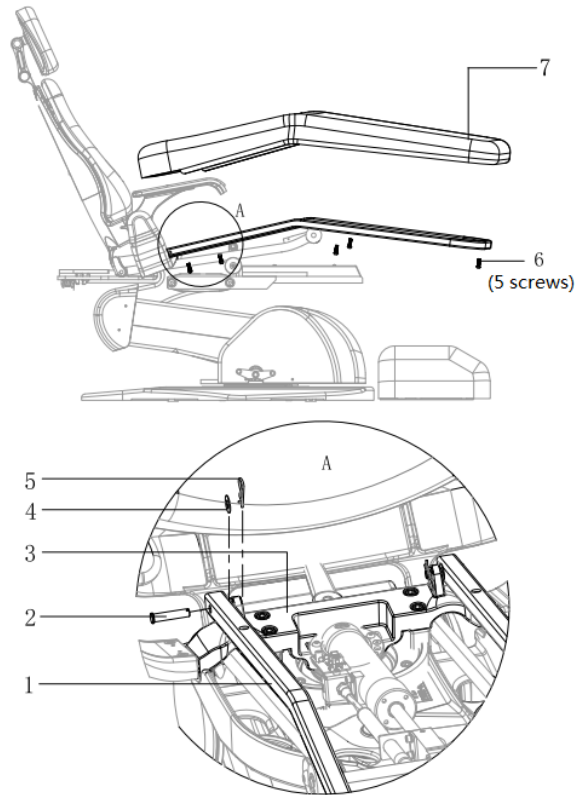

Figure 5. Seat Cushion Installation
1. Put the seat frame ① on the side of the yoke casting ③.
2. Align two screw holes as indicated on Figure 5. Detail A.
3. Place a washer ④ between the seat frame and the yoke casting.
4. Install a connecting pin ② through the hole on each side of the chair.
5. Install an R latch ⑤ through the hole on the connecting pin on both sides.
6. Put the seat cushion ⑦ on top of the seat support.
10. Tighten all 5 screws ⑥.